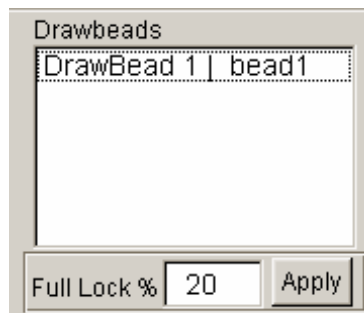

Figure 7.35 Drawbead list
19. Next, use your mouse cursor to pick **Drawbead1** from the drawbead list. Type in **20** (%) in the input data field of **Full Lock %** illustrated in Figure 7.35. Then, click **Apply** button to modify the full lock force of drawbead.